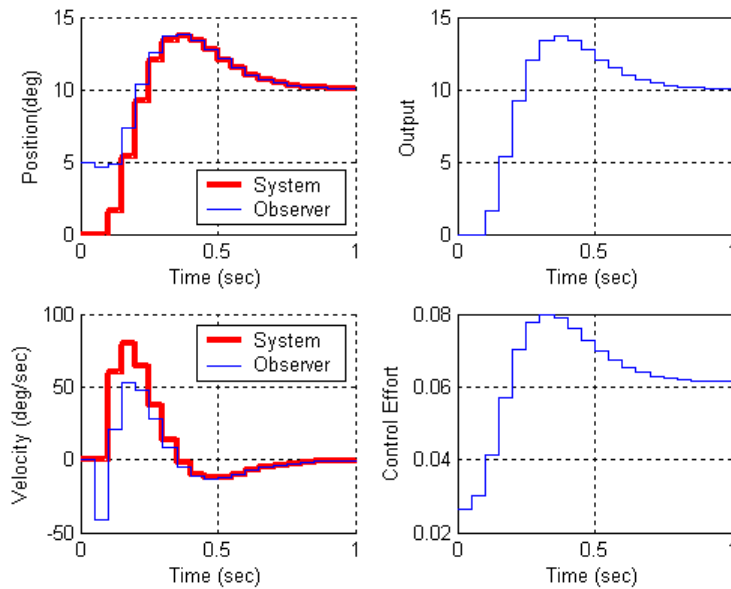

Figure 1. Results for problem 1c.
c) Place both the state feedback and observer poles all at 0.5 (yes, this is a bad design) The output of the system is the position of the first disk and this is also the output available to the observer ( $C = C_y$  in this case). The disk is initially estimated to be at 5 degrees (be careful of units here! The model works in radians.). The initial estimates of the velocity and delayed control signal are zero. The real system starts at rest (all initial conditions are zero.) For a 10 degree step input you should get the graph shown in Figure 1. Turn in your plot.